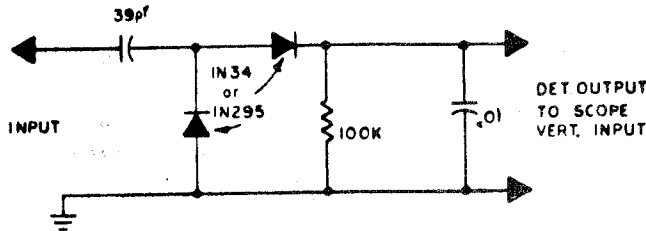

Figure 4-5. High-Z Detector
- f) High-Impedance Detector: Fig. 4-5.
- 2) Connect a high-impedance detector (Figure 4-5) to gate of 1st mixer Q-102; then, connect detector output to oscilloscope vertical input.